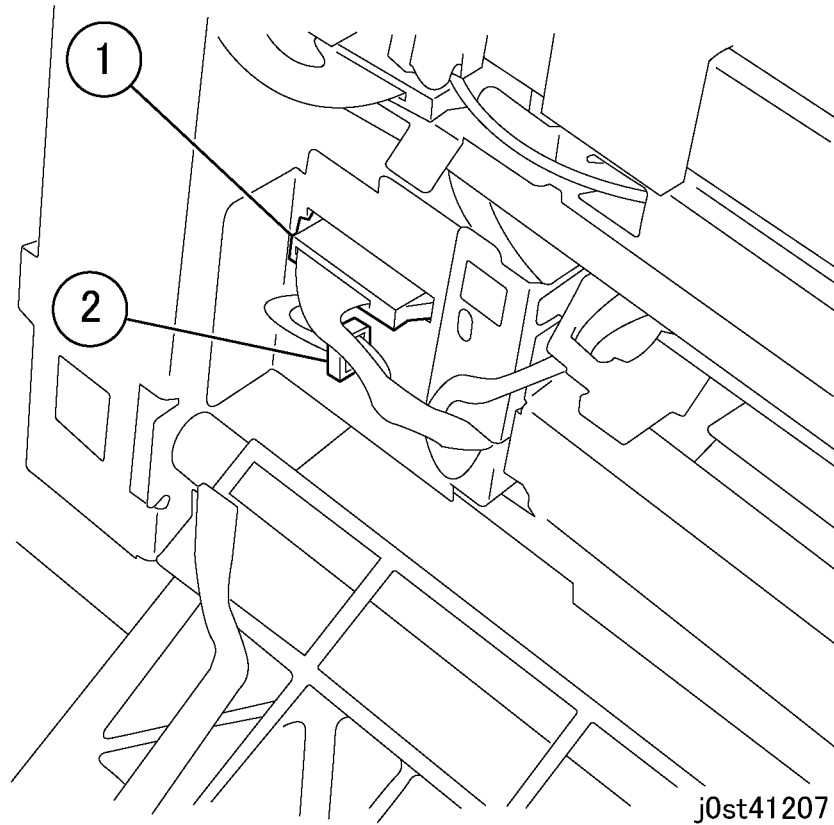

Figure 5 Disconnecting the connector (j0st41207)
7. Disconnect the connector. (Figure 5)